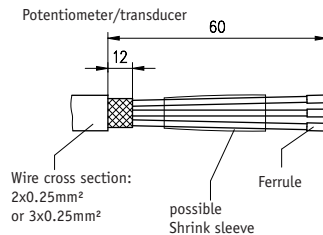

Fig. 4: Cable preparing
- Prepare wire accord. to Fig. 4